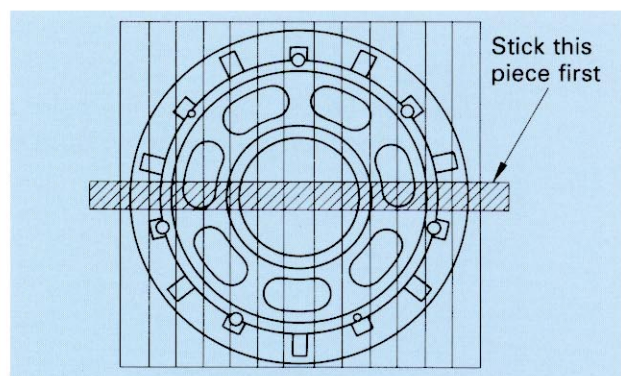

Fig. 5
- (1) Remove the bearing plate and place it on a sliding surface.
- (2) Stick mending tape to the bearing plate contact surface.
- b) Put the second and following pieces of mending tape at right angles to the first piece and parallel to each other with no gap between them along the edges. See Fig. 5.
- (3) Peel off the mending tape and stick it on recording paper.